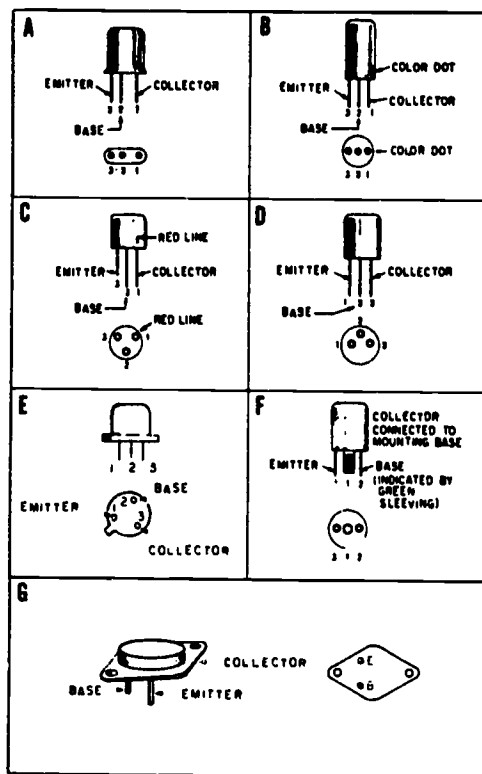

Fig 2-20. Transistor lead identification.
There are, however, some typical lead identification schemes that will be very helpful in transistor troubleshooting. These schemes are shown in figure 2-20. In the case of the oval shaped transistors shown in view (A), the collector lead is identified by a wide space between it and the base lead. The lead farthest from the collector, in line, is the emitter lead. When the leads are evenly spaced and in line, as shown in view (B), a colored dot, usually red, indicates the collector. If the transistor is round, as in view (C), a red line indicates the collector, and the emitter lead is the shortest lead. In view (D) the leads are in a triangular arrangement which is offset from the center of the transistor. The lead opposite the blank quadrant in this scheme is the base lead. When viewed from the bottom, the collector is the first lead clockwise from the base. The leads in view (E) are arranged in the same manner as those in view (D) except that a tap is used to identify the leads. When viewed from the bottom in a clockwise direction, first lead following the tab is the emitter, followed by the base and collector.